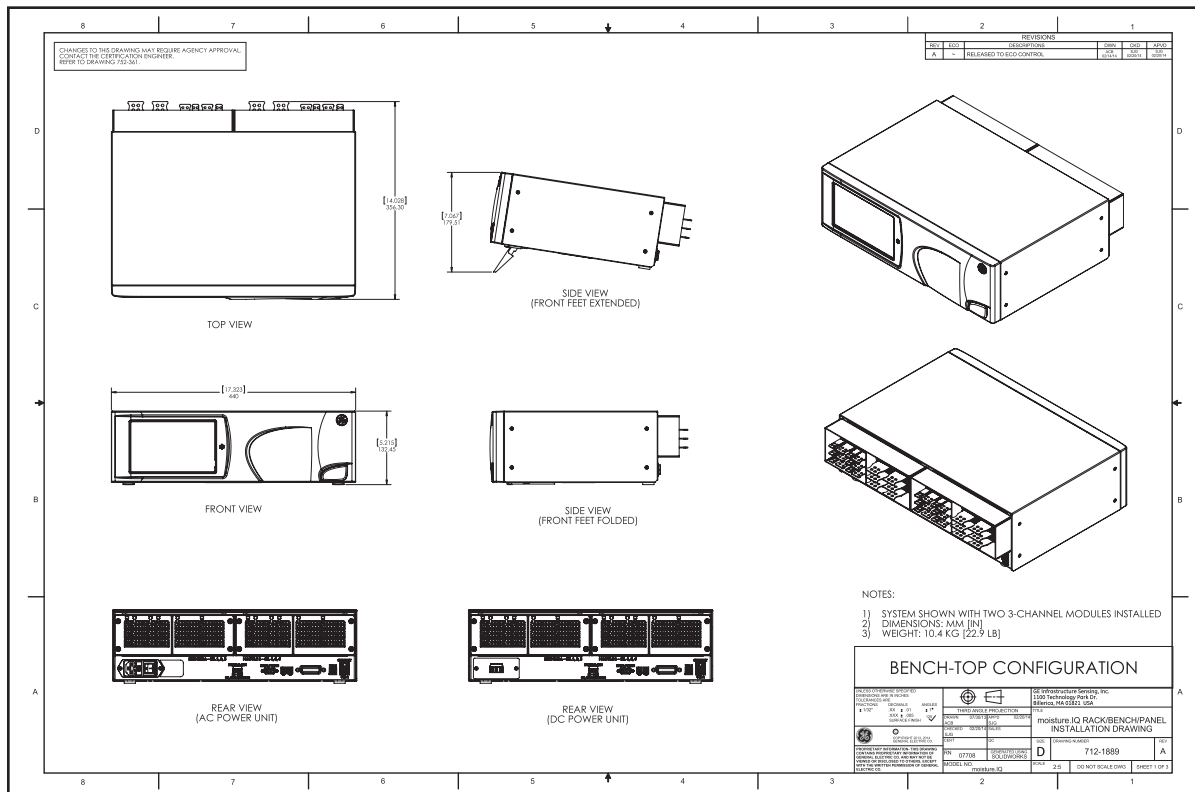
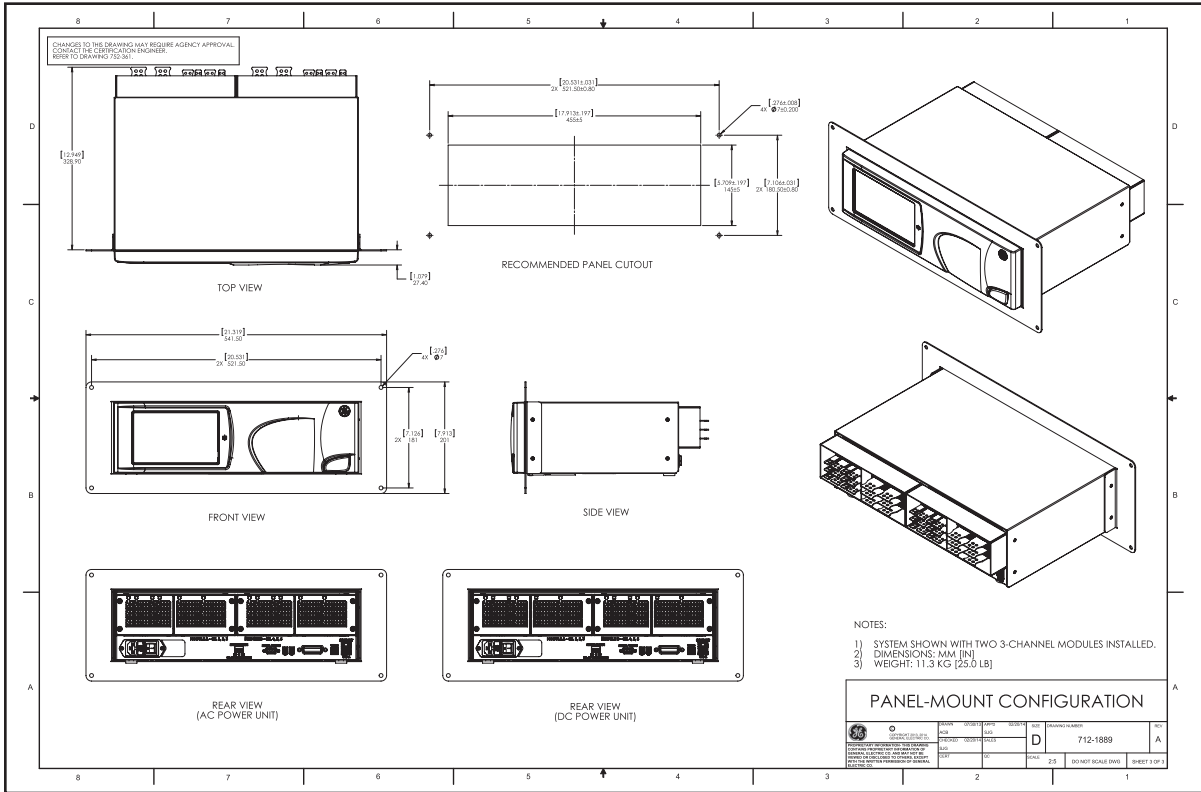

Figure 9: Bench-Top Configuration (Dwg. 712-1889\_revA, SH 1 of 3)
Figure 11: Panel-Mount Configuration (Dwg. 712-1889\_revA, SH 3 of 3)
- The installation should comply with configuration drawing 712-1889 Sheets 1-3 (see *Figure 9 on page 6 through Figure 11 on page 7*).